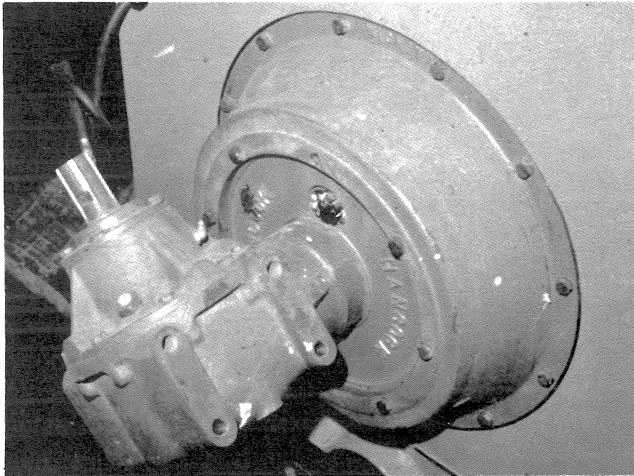

Figure 1. Shaft position, Clutch Gear box
The Hancock Model 12E2E Elevating Scraper utilizes a special ventilated air operated clutch and a sturdy right angle drive (Fig. 1) to transmit torque from the rear diesel engine to the elevator assembly. A remote control air valve at the operators position gives him positive control over the clutch. A pressure regulator, set at the 65 psi required to properly operate the clutch, assures a steady operating pressure.
- (1) **REMOVAL:** Disconnect and remove batteries and battery box. Mark the position of the ring gear shaft (output shaft) in relation to the engine. Marks to align the gear box to the adaptor plate, the adaptor plate to the bell housing, and the bell housing to the engine, before disassembly, will facilitate reassembly so that the output shaft will align with the drive line (Fig. 1).
- (2) Remove the two rows of capscrews securing the bell housing to the engine and to the adaptor plate (Fig. 1).